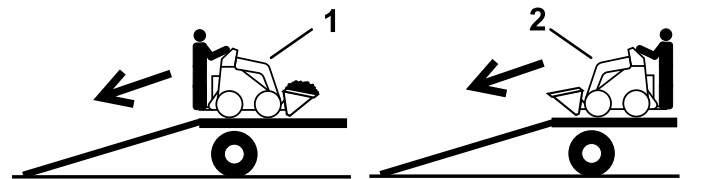

Figure 16
2. Unload the machine from the trailer with the heavy end up the ramp, carrying loads low (Figure 16).